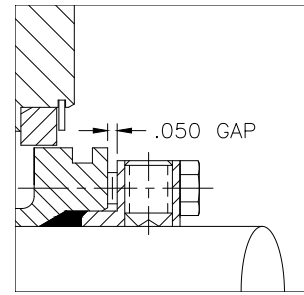

Figure 10: Step 12.
12. Remove the setting clips from the seal. Save these for future use in seal removal or impeller adjustment (Figure 10).